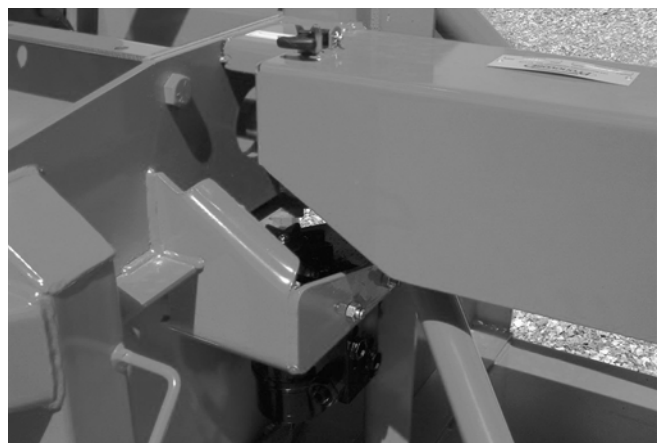

Figure 24
- 7) Close the drive shaft guard (Fig. 24).